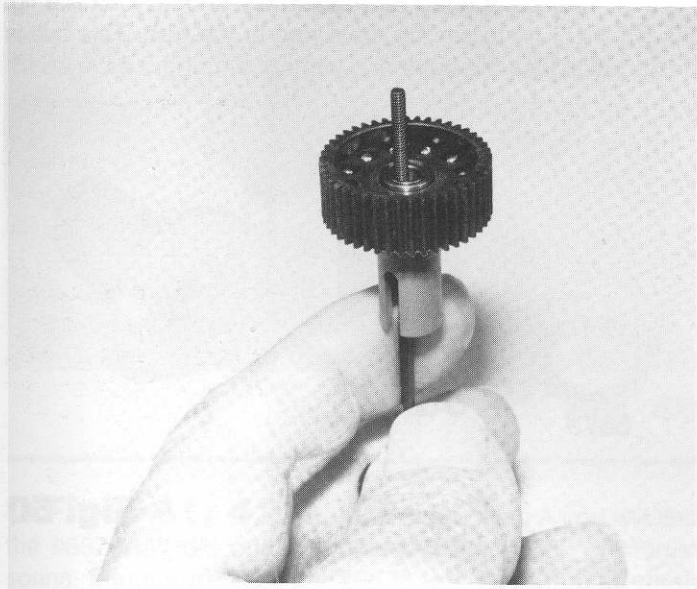

Fig. 52
□ **Fig. 52** With the Allen wrench still in the diff bolt, turn the hub assembly upright so that the wrench is on the bottom. Make sure that the #6579 diff drive ring is still on and centered. Now pick up the #6580 diff drive gear (with the balls and bearing still installed) and slip it over the #6575 diff thrust bolt onto the drive ring and hub.